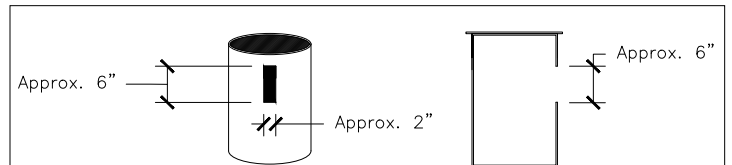

Figure 4. Sump pump Hydraway cut dimensions.
5. Cut the sump pit rectangularly to the outside dimensions of the Hydroway and slide the two ends into the side of the pit. Hydroway should extend at least 1 inch into the pit (See Figure 4).